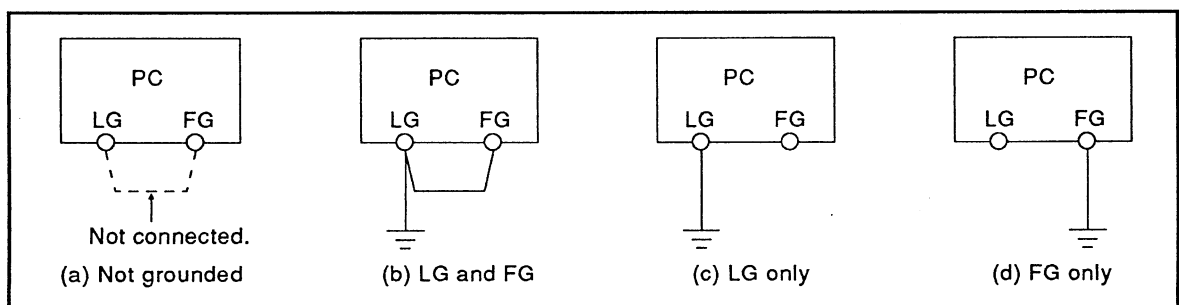

Fig. 5.10 Grounding Terminals
- (4) Use 2mm2 (14 AWG) or thicker grounding wire. Grounding point should be as near as possible to the PC to minimize the distance of grounding cable.
- (5) Should incorrect operation occur due to grounding, disconnect one or both of the LG and FG terminals of base units from the grounding (See Fig.5.10).